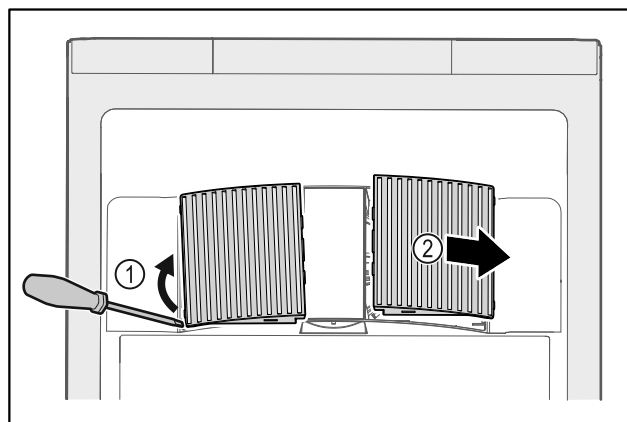

Fig. 146
- ▶ Carefully lever out fan covers from the side Fig. 146 (1) and remove towards the front Fig. 146 (2).